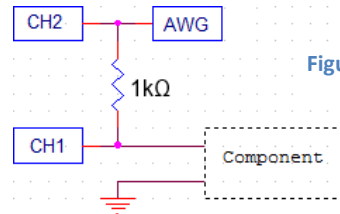

Figure 71: Component tester
- 1) Build the circuit shown in figure 71, or flip the CURVE switch on the Portables.